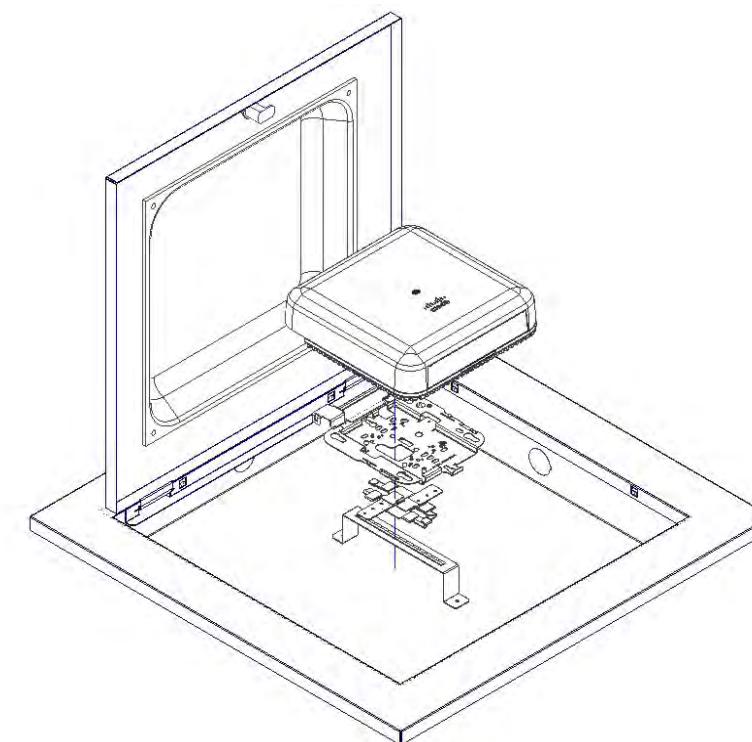

Figure 3
Step 3 – (Any manufacturer's access points) Install the access point's mounting plate to the enclosure's "T-Bar" bracket using the manufacturer's instructions for attaching the mounting bracket to a ceiling tile grid (T-Bar). Attach the *Access Point* to the mounting plate. (Ref. *Figure 3*).